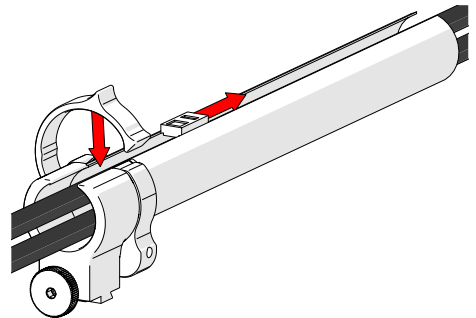

Fig. 61 - Zip up to close
2. Follow the cable placement, zipping the tube closed (Fig. 61).